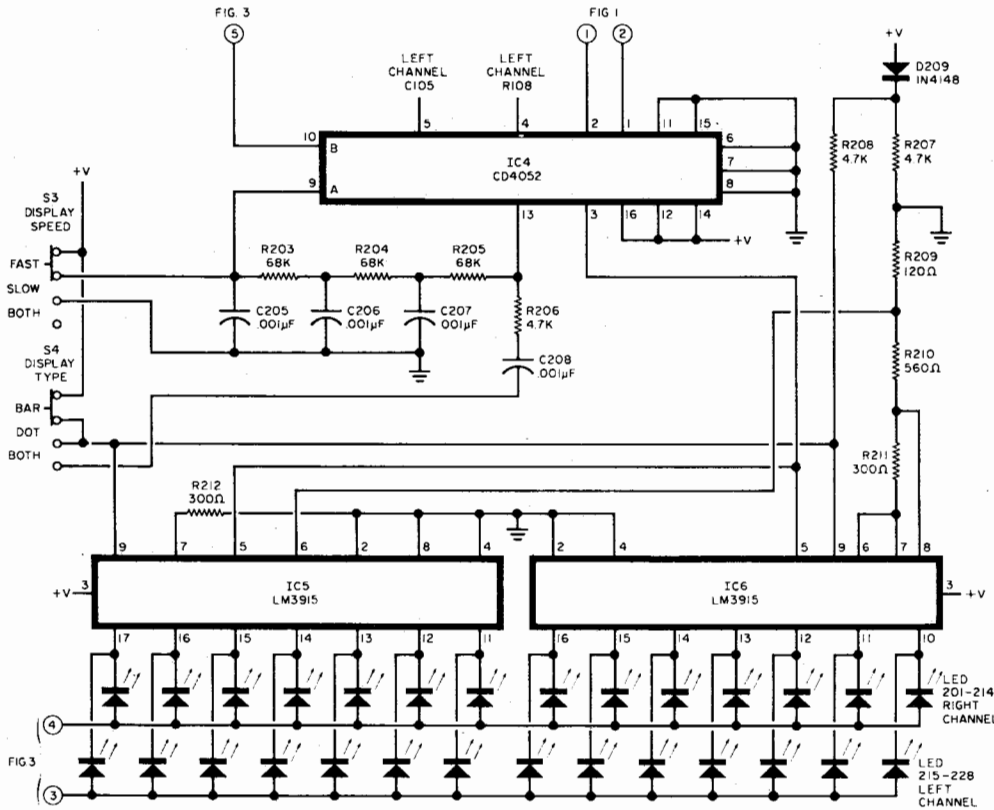
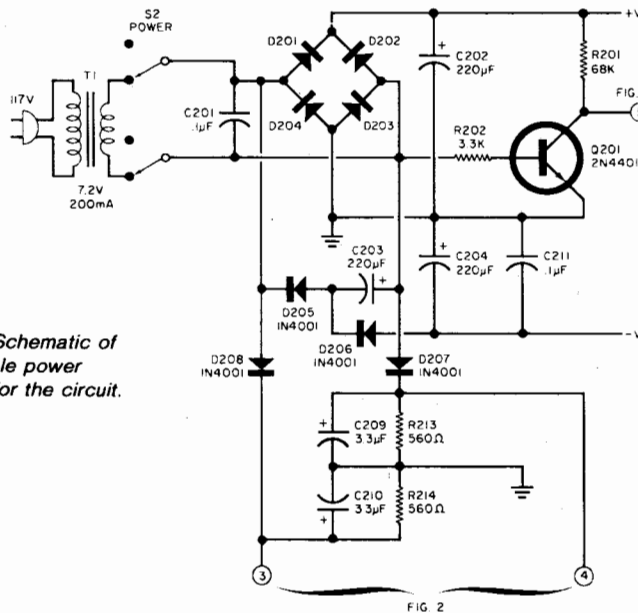

Fig. 2. Schematic of the display circuit for the level meter. The switching scheme permits use of the same circuit for both left and right channels of LEDs.
Fig. 3. Schematic of a suitable power supply for the circuit.
Before we discuss the LED drivers as shown in Fig. 2, let us take a look at the power supply shown in Fig. 3. Transformer *T1* is a wall-socket mounted source that connects via power switch *S2* to the bridge rectifier formed by *D201* through *D204*. Using *C202* as a filter, this supply delivers about 9 volts. Diodes *D205*
*LED214* is powered via *D207*, while the left channel LEDs are off. During this half cycle, transistor *Q201* is turned on (via *R202*) producing a high-to-low transition at its collector. This 60-Hz pulse is applied to *IC4* as shown in Fig. 2. This switching action alternates the LEDs at a rate fast enough to make both banks appear to light up at the same time. This approach allows use of the same LED